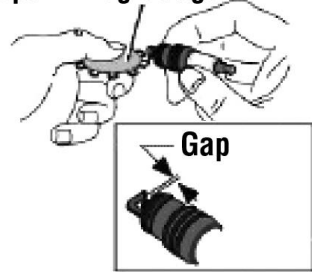

Fig. 18
4. Check the gap with a spark plug gauge as shown in Figure 18. If necessary, reset the gap (See Specifications).